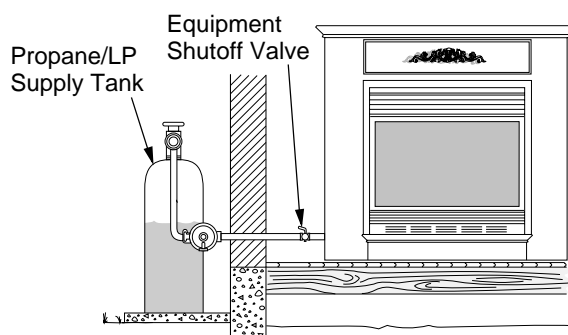

Figure 28 - Checking Gas Joints Shown with Optional Mantel (Propane/LP Gas)
3. Check all joints from gas meter for natural or propane/LP supply to equipment shutoff valve (see Figures 28 and 29). Apply a noncorrosive leak detection fluid to gas joints. Bubbles forming show a leak.
4. Check all joints from equipment shutoff valve to thermostat gas valve (see Figures 28 and 29). Apply a noncorrosive leak detection fluid to gas joints. Bubbles forming show a leak.